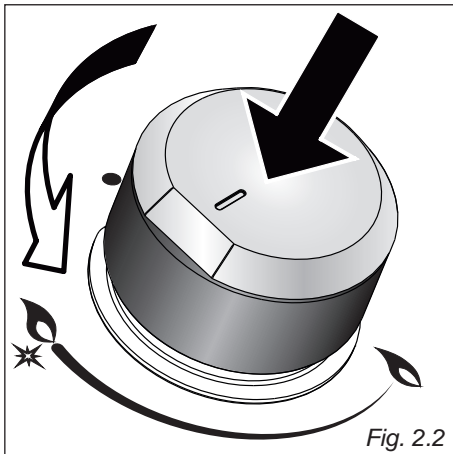

Fig. 2.2
1. Press in the corresponding knob and turn counter-clockwise (fig. 2.2) to the full flame position marked by the “” symbol (fig. 2.1); hold the knob in until the flame has been lit.